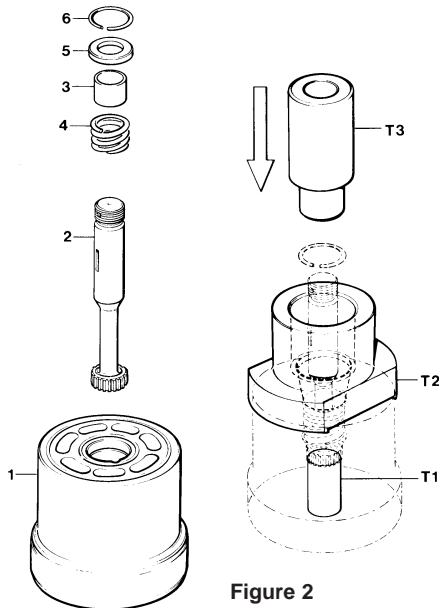

Figure 2
See figure 2. Position the barrel (1) in a press with the large end turned down and insert tool figure T-1 in the splined shaft hole in the barrel.
**PARTS LIST FOR FIGURE 2**